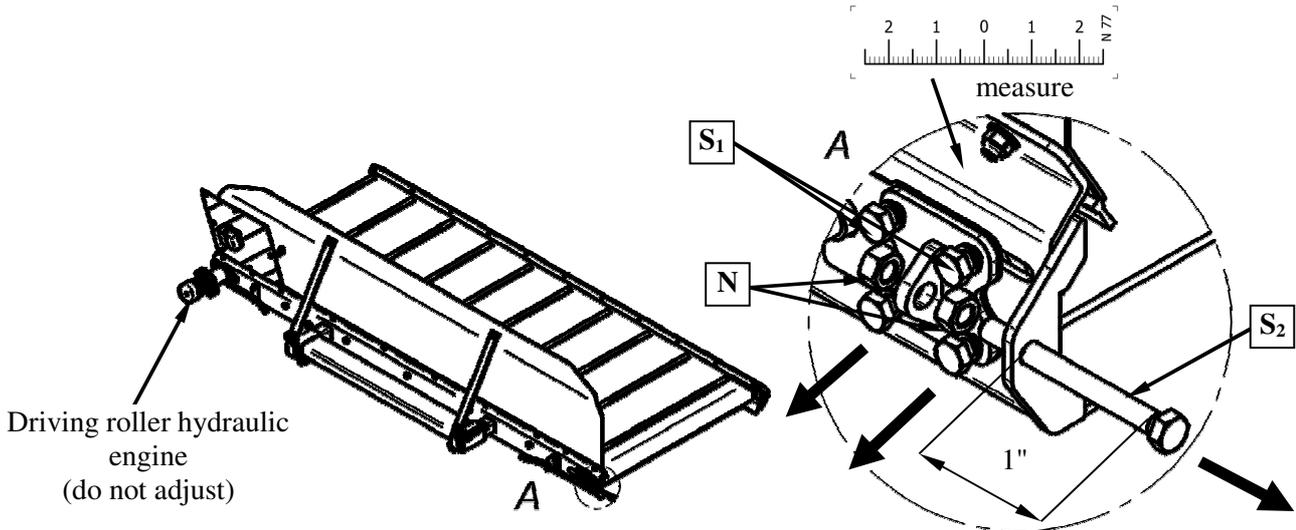

Fig. 43.
2. Loosen tightening roller mechanism – screws M10 - S₁, nuts M12 – N₂, and loosen adjustment screw M12 – S₂ by approx. 3'11" (**Fig. 43**).